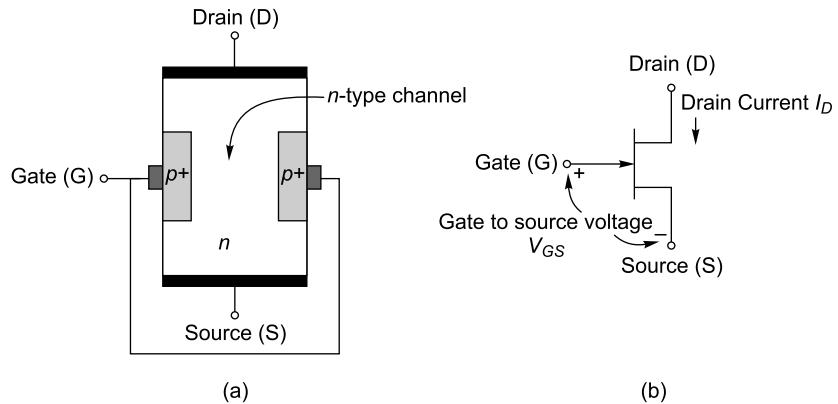

Fig. 1.4 (a) Simplified structure of an n-channel JFET (b) Symbol of JFET
One side of the ohmic contacts is called the source (S) and the other side is known as the drain (D). Source (S) is a terminal through which electrons can enter into the *n*-type semiconductor and the electrons leave the *n*-type semiconductor bar through drain (D) terminal. The most simplified representation of *n*-channel JFET is illustrated in Fig. 1.4.